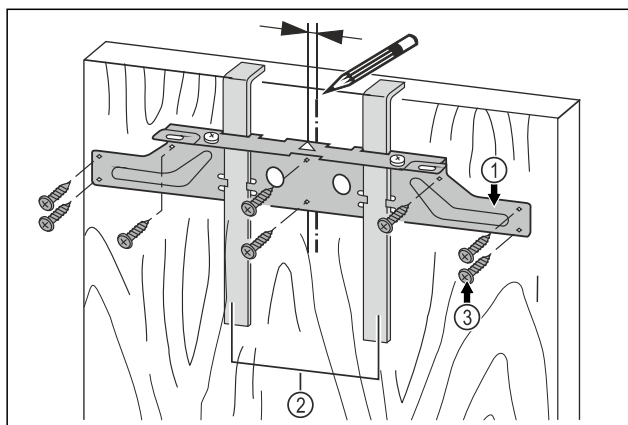

Fig. 22
- Align the fastening crossbeam Fig. 22 (1) in the center of the door.
- Left piping: Move the fastening crossbeam Fig. 22 (1) 6 mm (1/4 in) to the left.
- Right piping: Move the fastening crossbeam Fig. 22 (1) 6 mm (1/4 in) to the right.